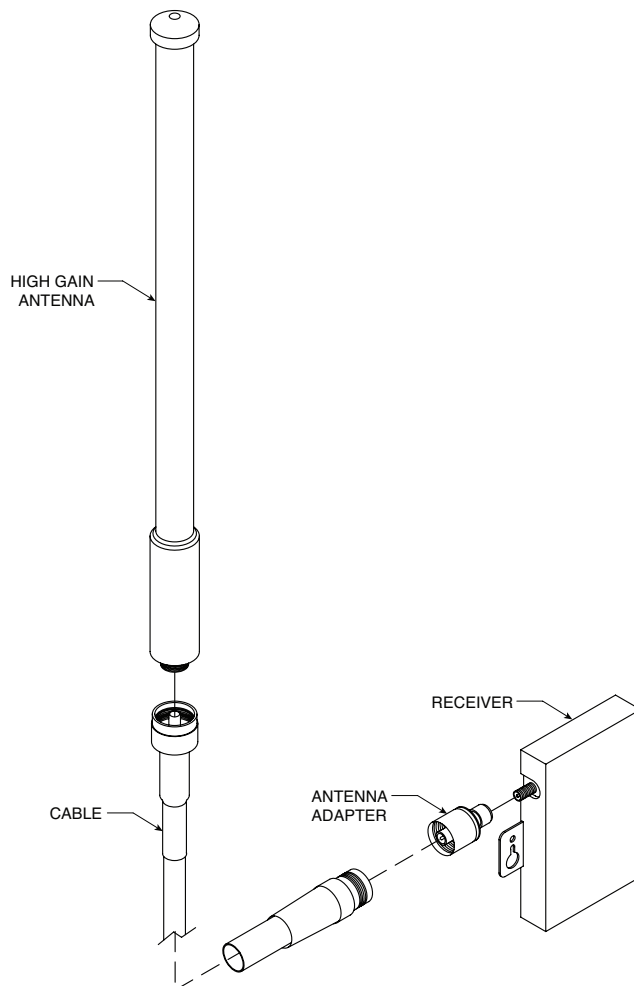

Figure 3-1. High Gain Antenna To Device Connection
- Connect your high gain antenna to the devices, using the antenna adapter and cable, as shown in Figure 3-1.